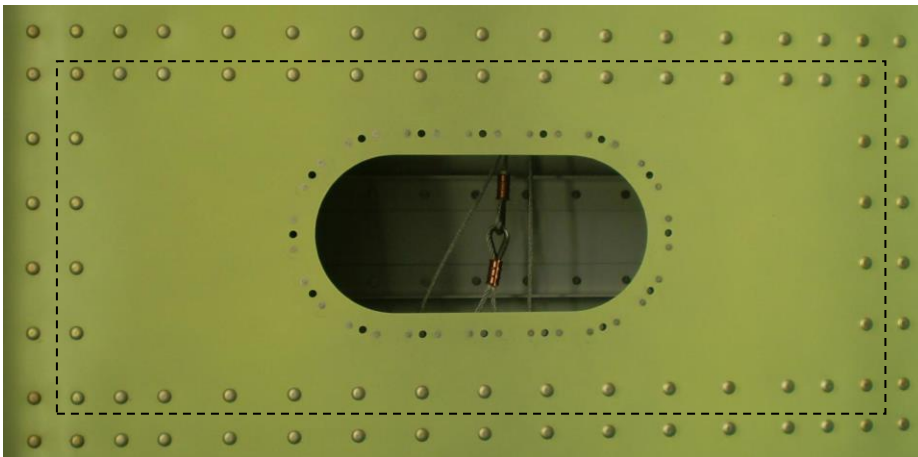

Figure 1: Rivets to be removed from belly (only the inside rows of rivets of the double rows shown).
2. Drill out and remove the domed head rivets within the dotted boundary shown in Figure 1 in the belly surrounding the existing undercarriage access panel.